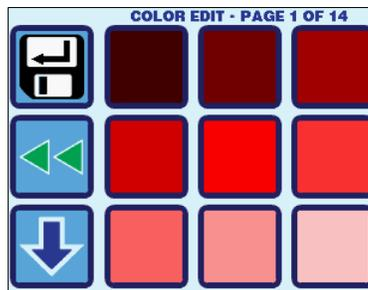

Figure 26- Color Edit Screen Example
**Display Colors** – The various portions of the display can have their colors changed. The color choice palettes displayed consist of 126 different colors shown across 14 pages. Pages 1-12 show the color choices from a standard color pallet, page 13 shows the grayscale color choices, and page 14 shows the standard display colors used by factory default. Figure 26 below shows an example of a color selection display screen.